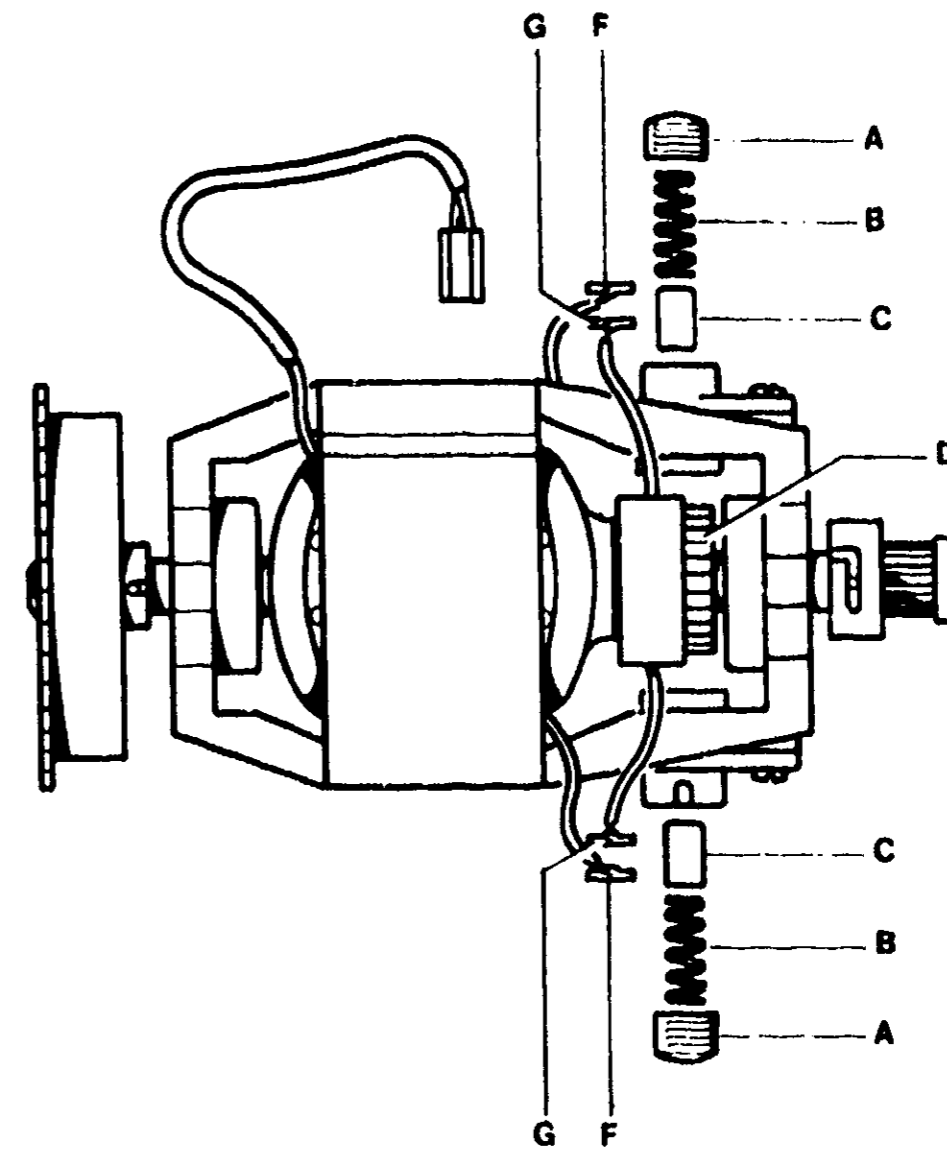

FIGURE 78
- Loosen caps (A) (Figure 78) Remove brushes (C) and replace them
- Install caps (A) making sure that terminals (F) and (G) are positioned between brush spring (B) and cap
- **NOTE** Motor should be replaced whenever one or more commutator bars (D) show corrosion because of excessive arcing from brushes